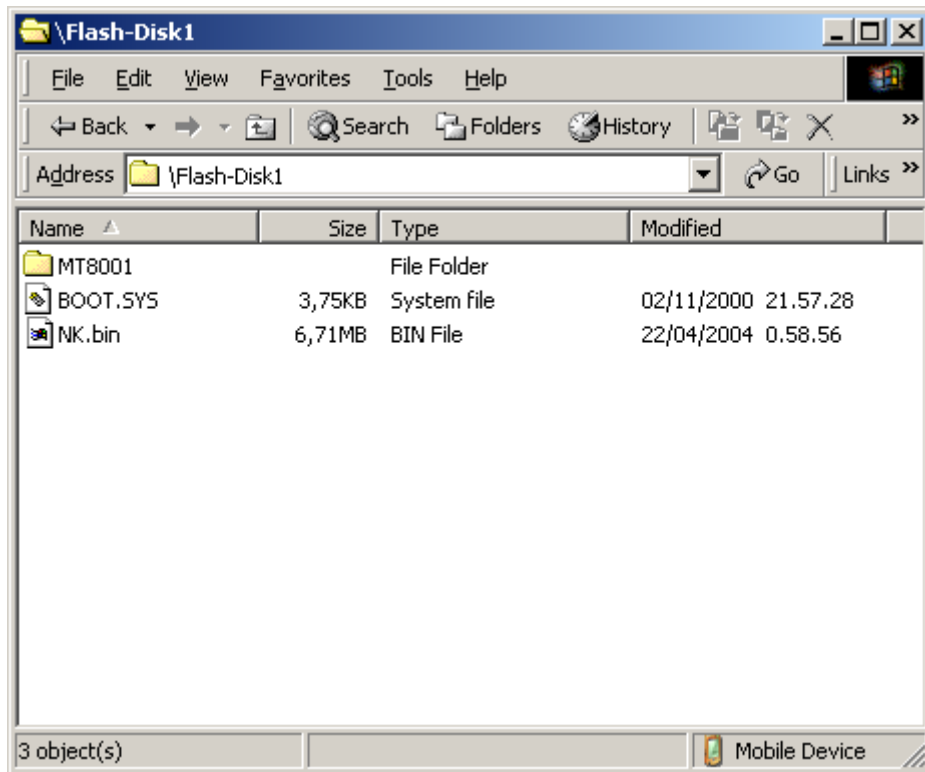

Fig. 1 Flash-Disk1 root directory
- Carefully check that the files and folders structure matches the structure reported above and shown in Fig. 1 below (the NK.bin and BOOT.SYS files must be present in the Flash-Disk1 root directory).